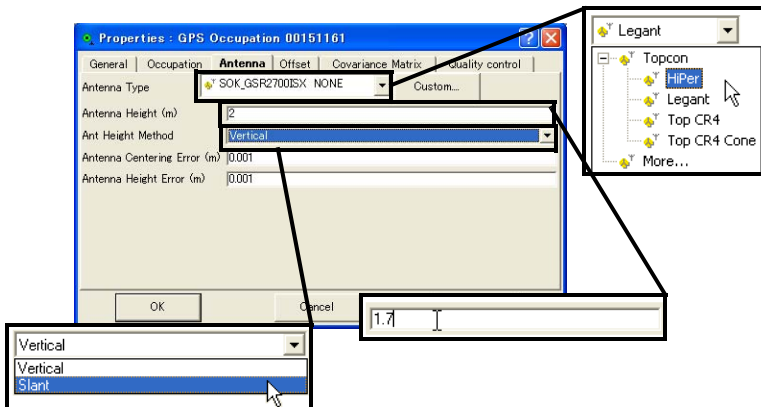

Figure 5-5. Enter New Parameters
- On the *Antenna* tab change the *Antenna Type*, *Antenna Height*, and *Ant Height Method*, *Antenna centering error*, *Antenna height error* as needed (Figure 5-5 on page 5-6).